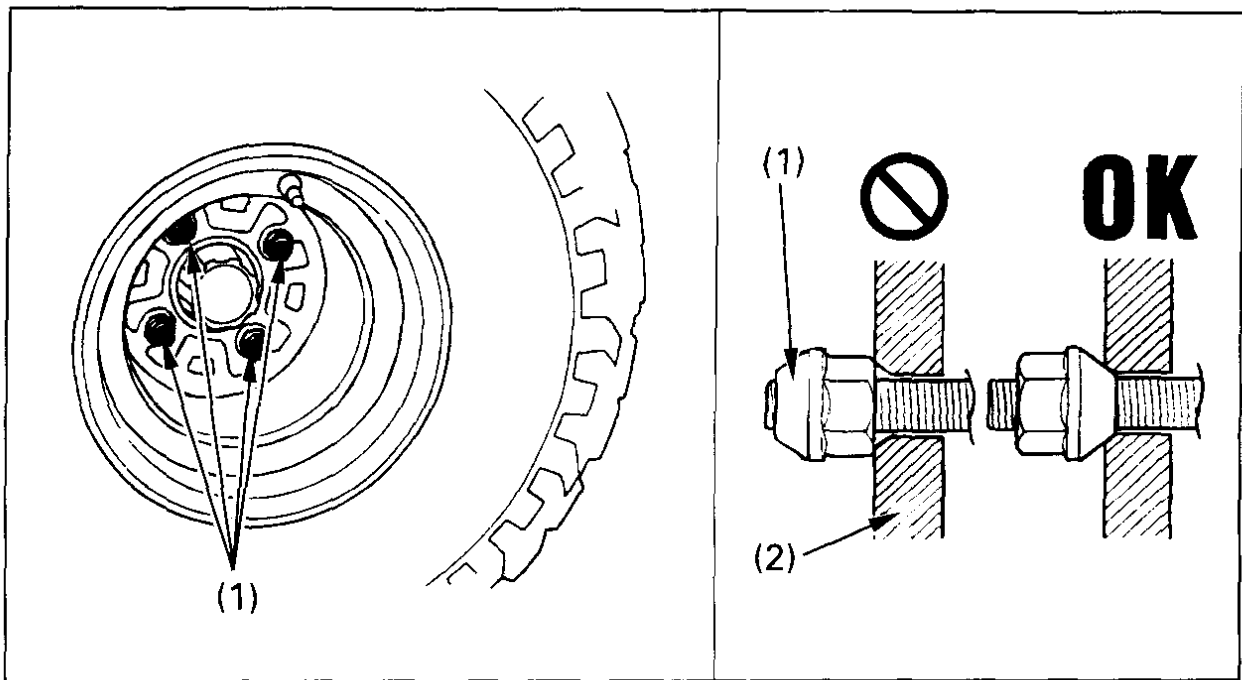

Fig. 4-34 (1) Wheel nuts
2. Loosen the wheel nuts (Fig. 4-34) with a 17 mm socket wrench.